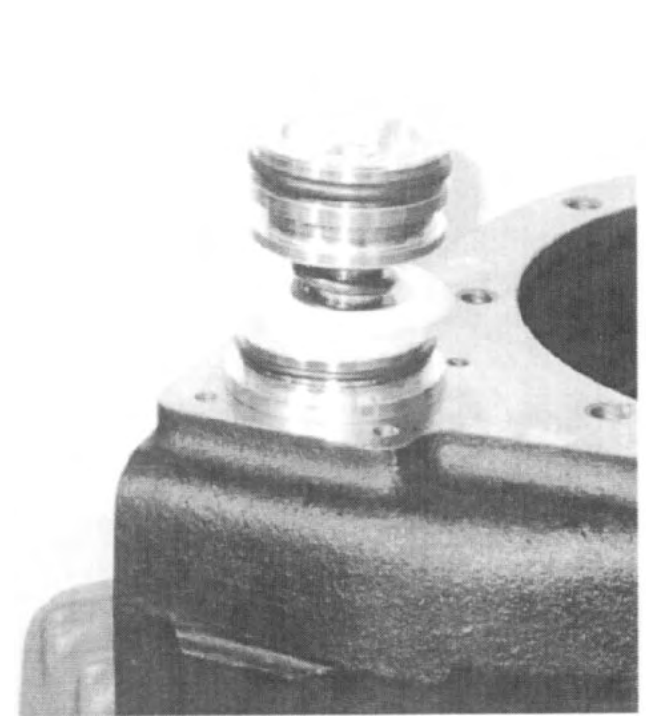

Fig. 83
23. Compress the shift spring, by pushing down on the piston, and install a 3/8-24 lock nut onto the end of the shift shaft. Torque the lock nut to specification. *See Fig. 83.*